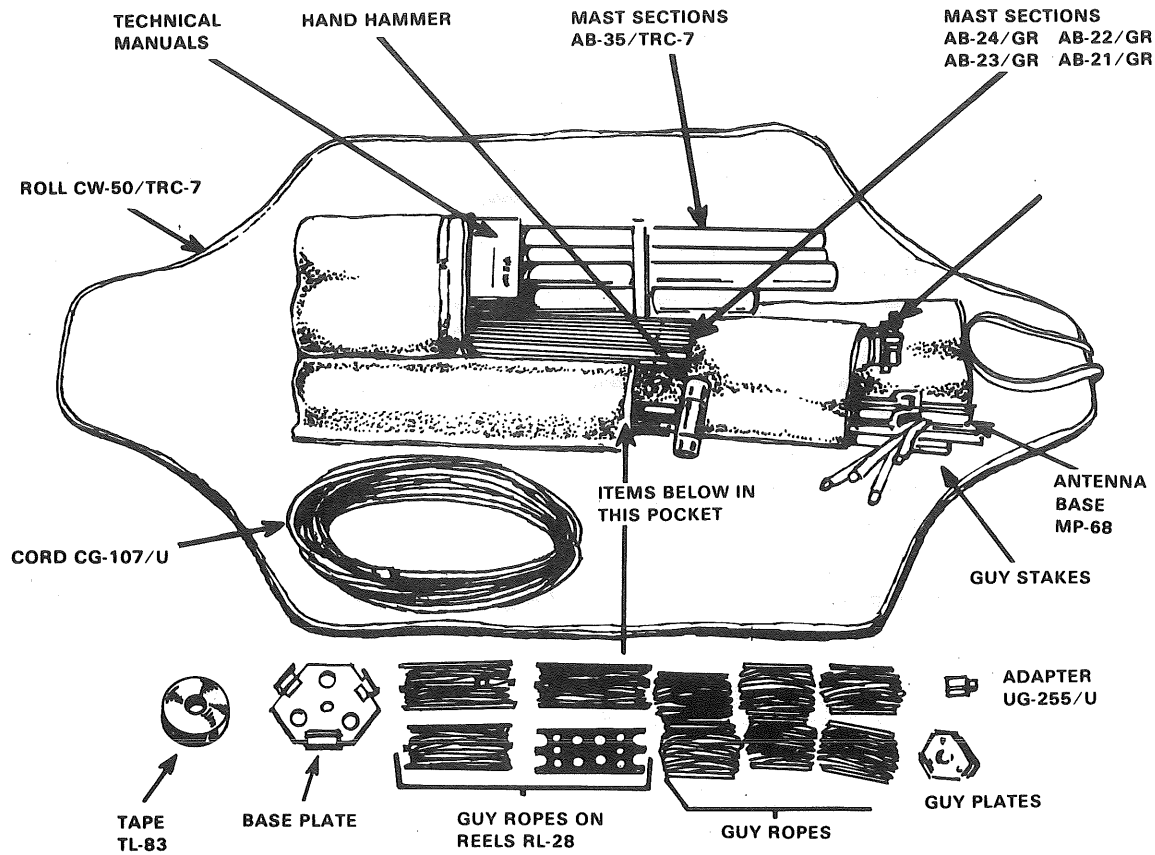

Figure 2. RC-292 packing in Bag, Roll, CW-50/TRC-7.
- a. Mast Sections AB-35/TRC-7 and TM stacked in top broad pocket and strapped (fig 2).